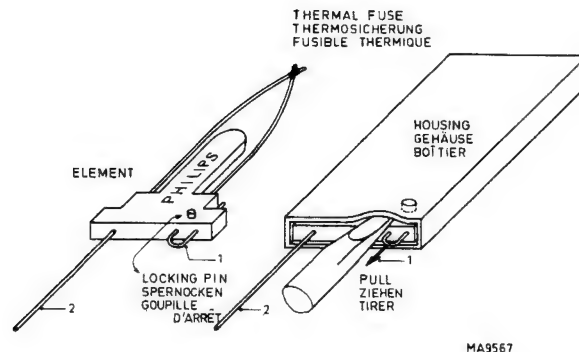

Fig. 2.8. Fuse replacement
- unsolder the fuse terminals 1 and 2 (see Section 2.1.3 and Fig. 2.8.).